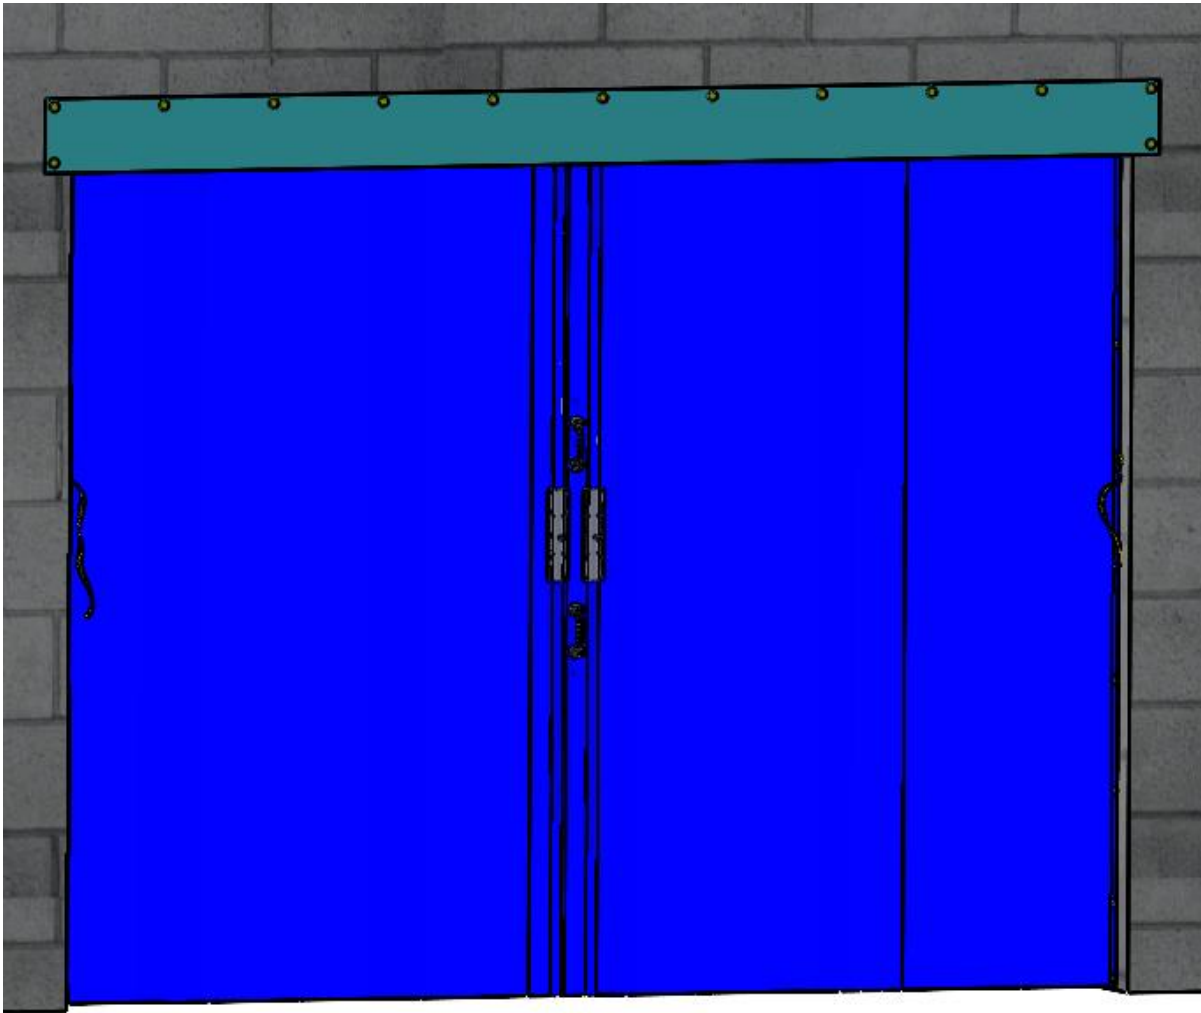

Figure 7 Install Valance
1. Attach the valance panel to the building fascia through the grommets using the provided rubber washers and self-tapping screws. Center the Valance on the opening, and locate the top edge at about be 2"-4" (two to four inches) above the door opening Header concealing the Curtain Grommets and Roller Hooks. Screws and anchors are provided. (Figure 7 Install Valance)